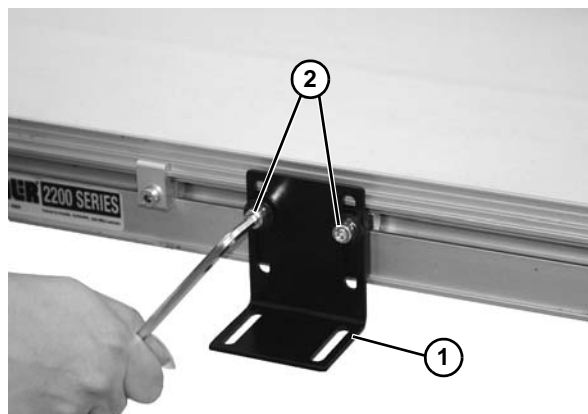

Figure 10
4. Mount slotted bracket (**Figure 10, item 1**) to conveyor frame with M6 screws (**Figure 10, item 2**).